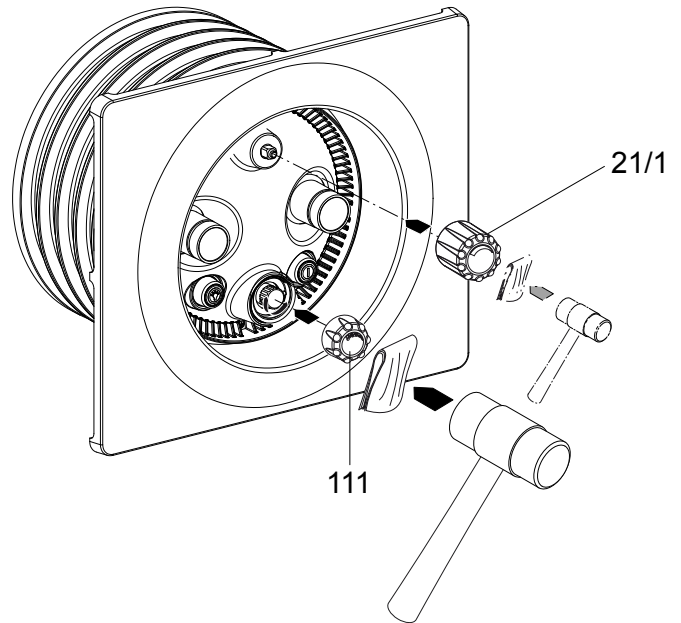

Figure 16
10. Mount the volume control knob (part #21.1) and air regulator knob (part #111) by means of a rubber mallet and a protective cloth. (See Figure 16)